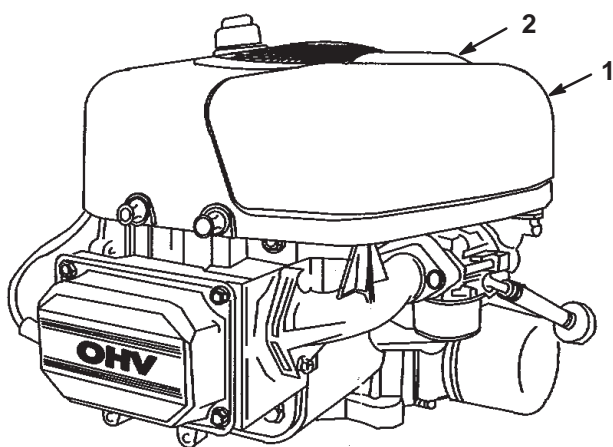

Figure 20
2. Clean around the air cleaner to prevent dirt from getting into the engine and causing damage. Pull up on the air cleaner cover handle and rotate it toward the engine (Fig. 20). Remove the air cleaner cover.